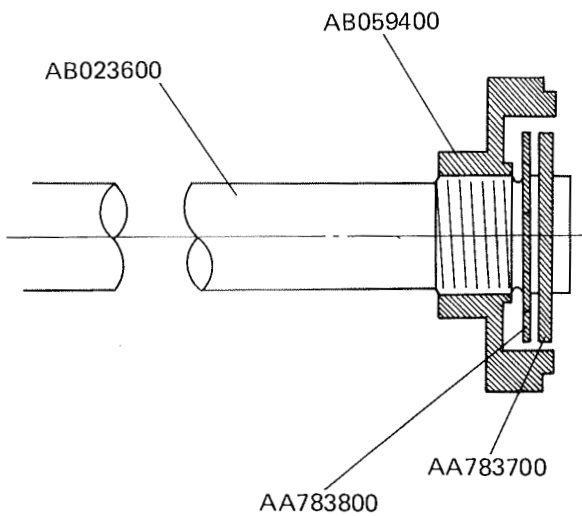

Fig. 4-13
- 4-2-2 Assemble Tension Adjusting Knob AB059400 with Pinion Mount AB023600. (See Fig. 4-13.)
- 4-2-3 Assemble Spring AA783800 and Washer AA783700 in position. (See Fig. 4-13.)